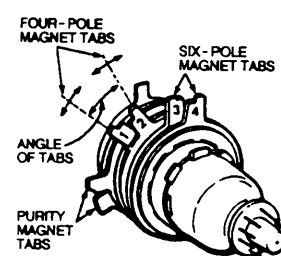

Fig 17.
- 1: Demagnetise the picture tube and receiver using an external degaussing coil. When replacing picture tube or deflection yoke, mount deflection yoke and purity-convergence magnets assembly properly, see figs. 17 and 18.